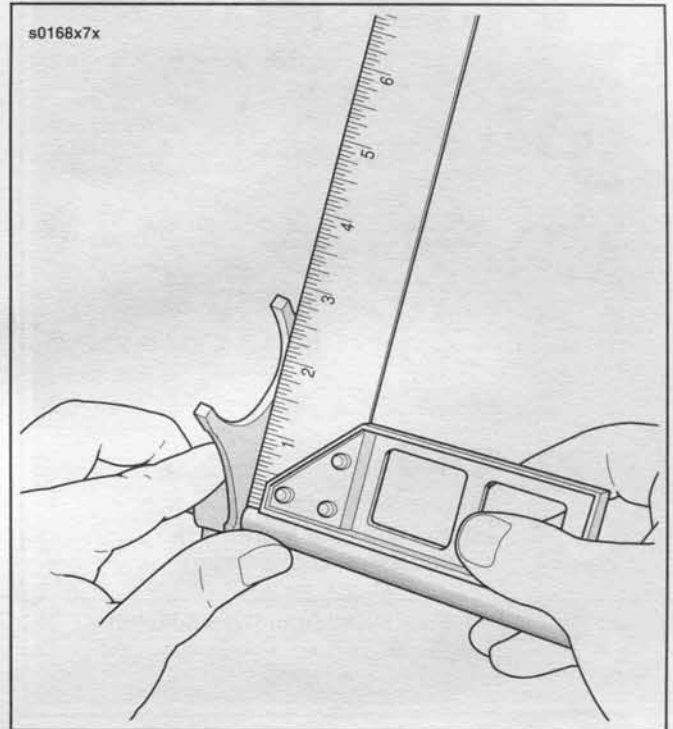

Figure 7-9. Checking Fork for Squareness
3. See Figure 7-9. Check to see if fork is square on the shaft using a small carpenter's square. If fork does not rest directly on the square, it is bent and must be replaced.